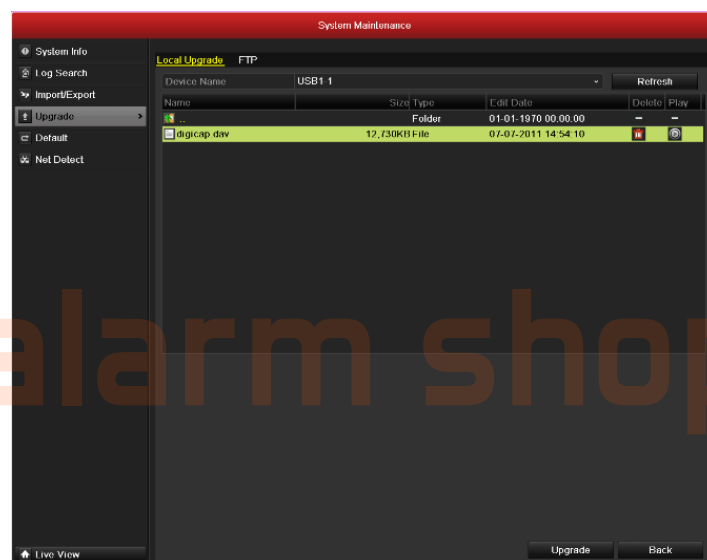

Figure 12.12 Local Upgrade Interface
3. Click the **Local Upgrade** tab to enter the local upgrade menu, as shown in Figure 12.12.